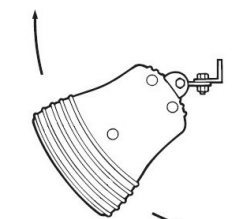
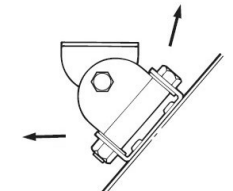

Fig. 2
Fig. 3
3. The Rio bracket can be used to adjust the direction of the heater up and down (see Fig. 2) and side to side (see Fig. 3). This is done by loosening the bolts fixing the heater to the bracket, and then retightening once the correct position is achieved.